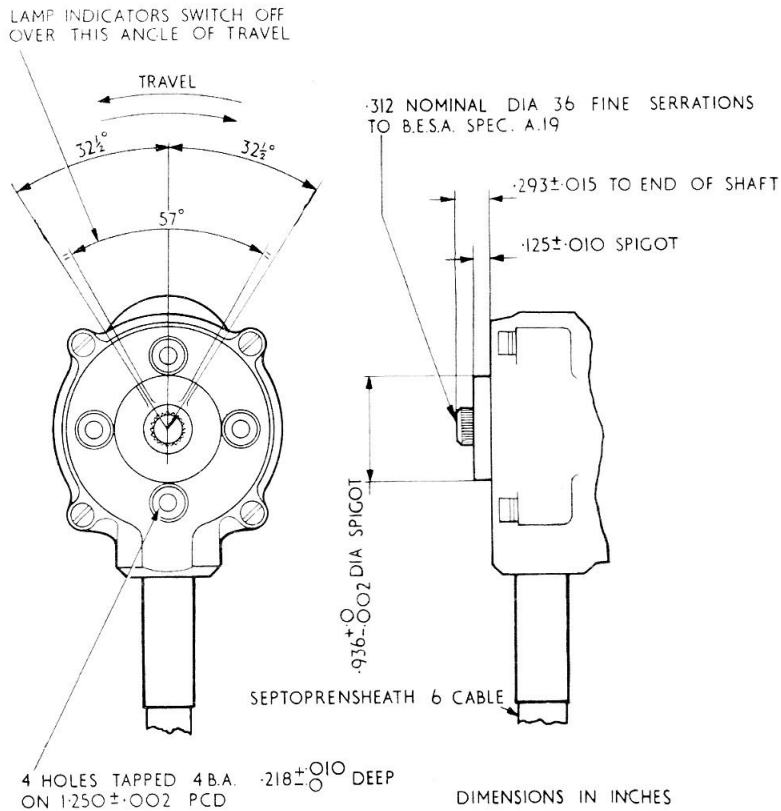

Fig. 2. Installation details
1. The C5035 actuator is similar to others in the series; the angular travel of the output shaft is 65 deg., and extremes of clockwise and anti-clockwise travel are indicated by sawcuts in the output shaft and on the end face of the mounting spigot (fig. 2).